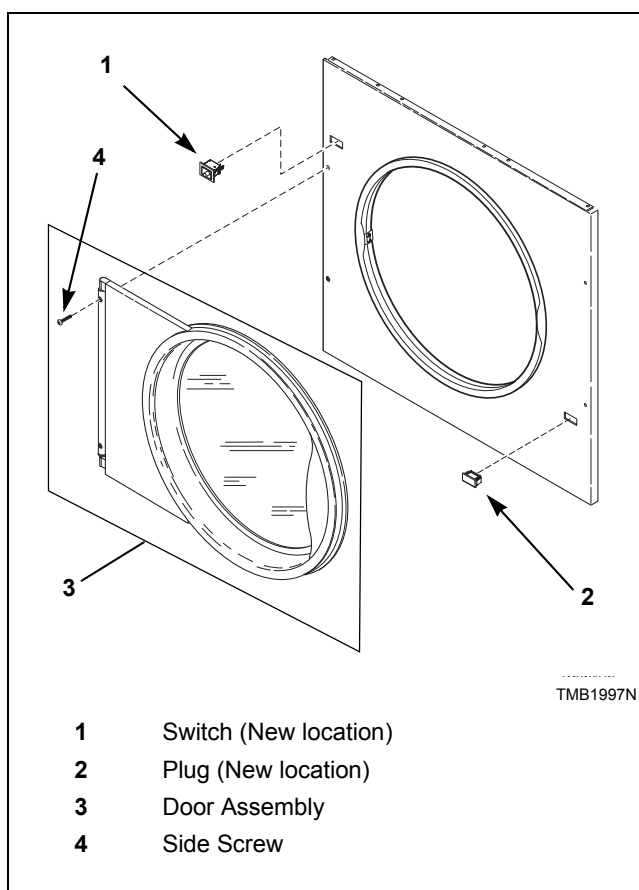

Figure 9
9. Place front panel on machine, loosely attach four bottom screws. Connect door switch harness to switch in new location. Install door assembly and four front panel side screws loosely. Refer to *Figure 9*.